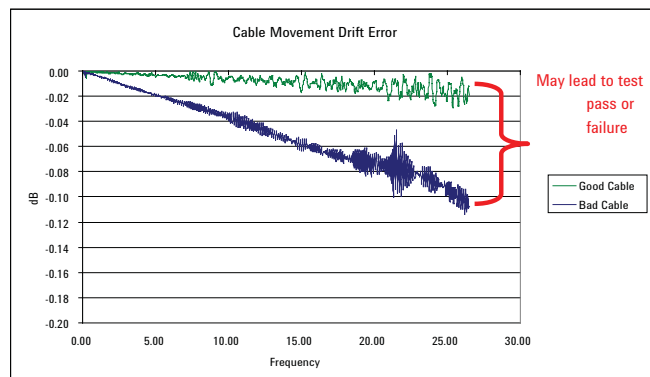

Figure 42. The effects of cable movement on measurement accuracy after calibration
- When the measurements of physically large DUTs require long test port cables. The movement of these cables can cause errors as shown in Figure 42. Cable movement is minimized if the unknown thru is of similar length as the DUT.